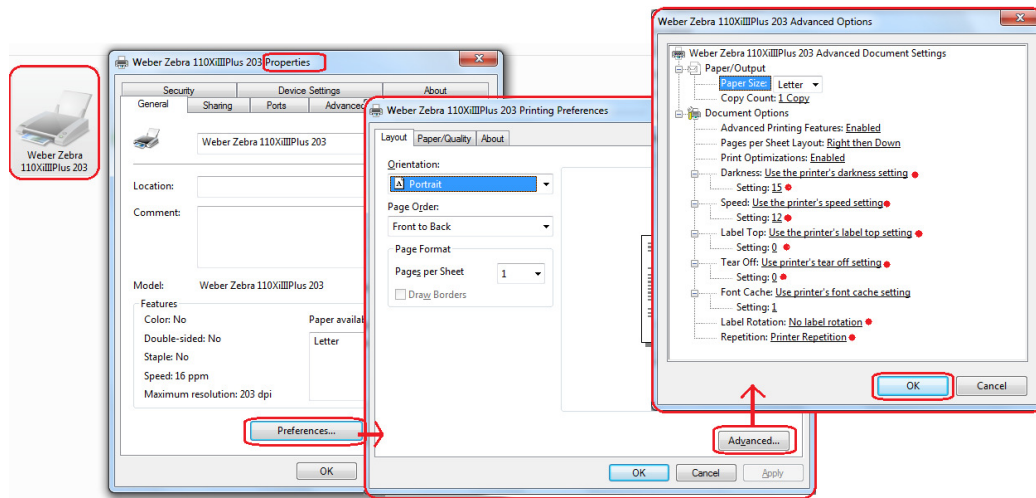

Figure 20
20. **Printer Properties – “General” Tab – “Preferences Button”** takes you to the Printer’s Preferences window and clicking on the **“Advance Button”** will get you to the **“Document Options”** settings for Darkness, Speed, Label Top Adjustment, Tear-off Setting, Print Rotation, and Repetition(printer or computer repetition) settings as shown in (Figure 20) below: